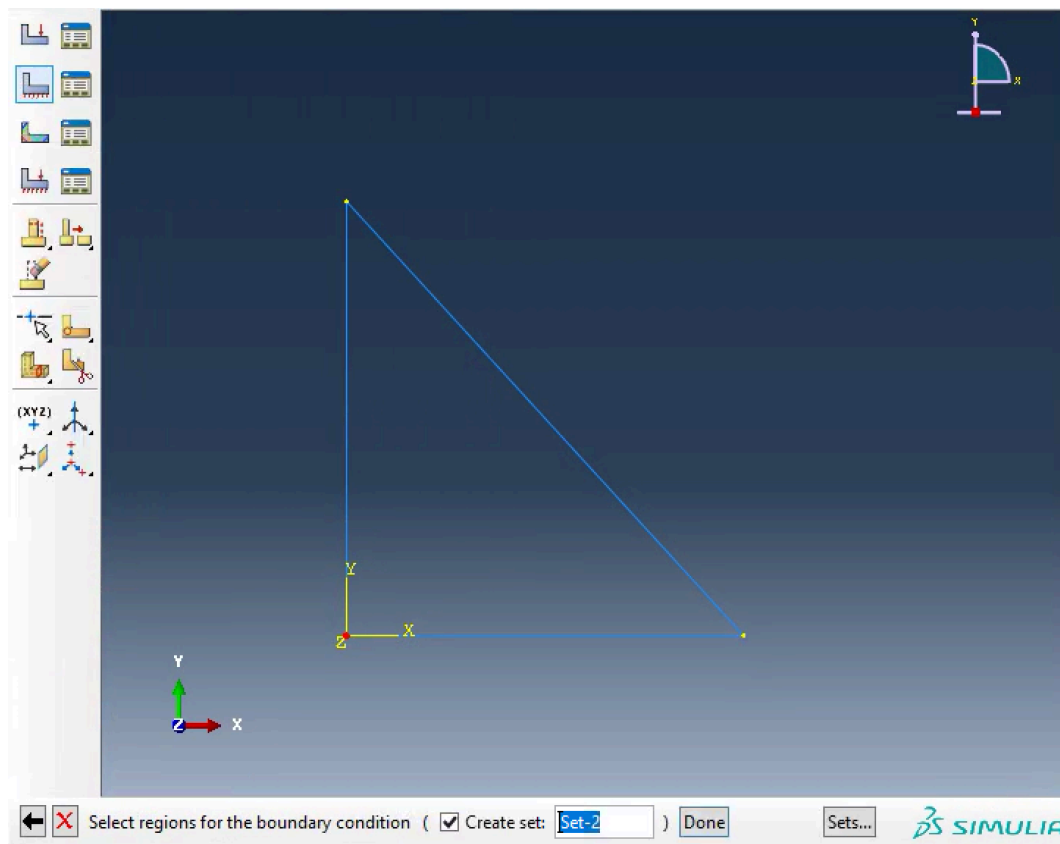

Figure 23 Selecting region imposed to the boundary condition
- Click on the region (point) imposed to the boundary condition, which is point 1 at the coordinate center. The selected point is marked in red color (Figure 23).